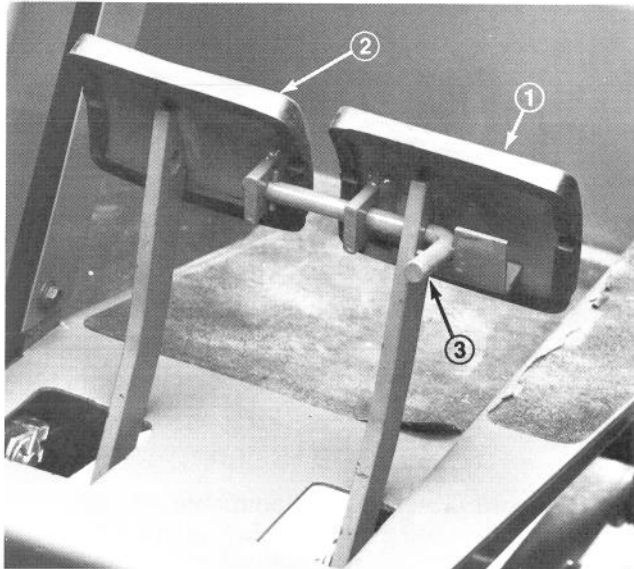
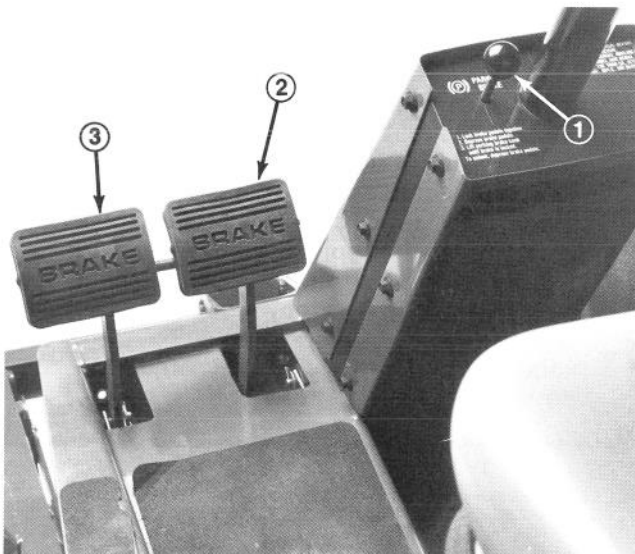

Figure 16
Figure 17
**Parking Brake** — Whenever the engine is shut off, the parking brake must be engaged to prevent accidental movement of the machine. To engage the parking brake, push lock arm (Fig. 16) on left brake pedal so that it locks together with the right pedal. Next, push down fully on both pedals and pull parking brake knob out (Fig. 17) then release the pedals. To release parking brake, depress both pedals until parking brake knob retracts. Before starting the engine, however, lock arm may be disengaged from left brake pedal so both pedals work independently with each front wheel.
**Service Brakes** (Fig. 17) — The left and right brake pedals are connected to the left and right front wheels. Since both brakes work independently of each other, the brakes can be used to turn sharply or to increase traction if one wheel tends to slip while operating on certain slope conditions. However, wet grass or soft turf could be damaged when brakes are used to turn sharply. To make a “quick-stop”, depress both brake pedals together. Always lock brakes together when transporting the traction unit.